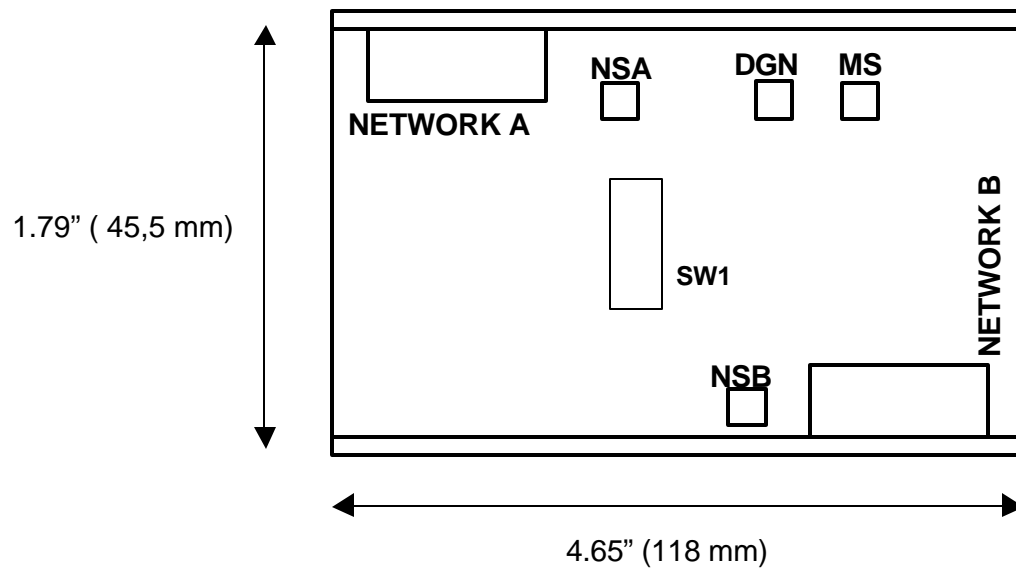
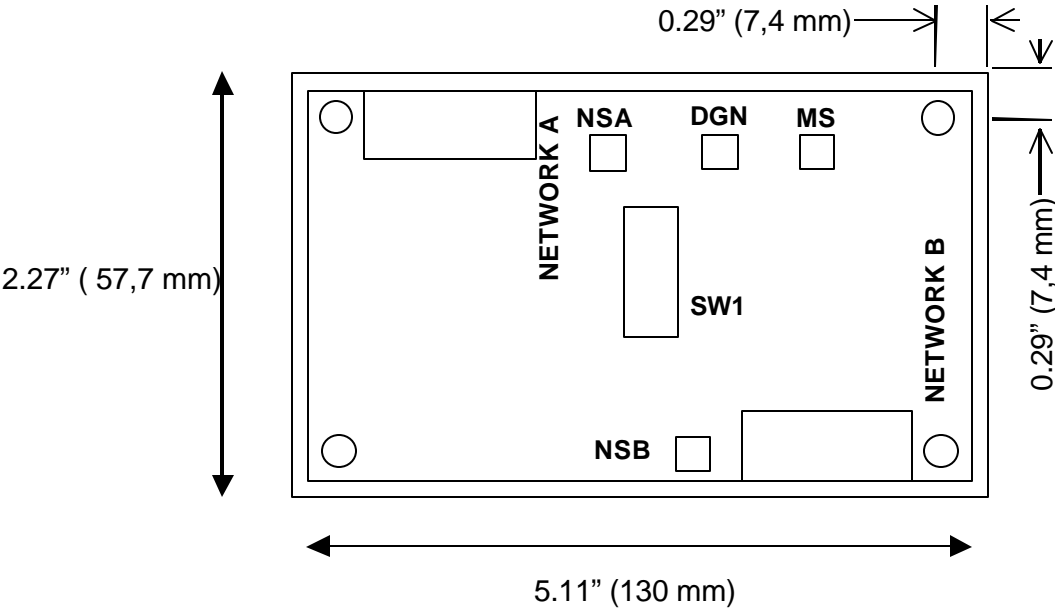

Figure 5-1 WRC-CANX-DIN CAN-Bus Extender
Figure 5-2 WRC-CANX-NEM CAN-Bus Extender
The WRC-CANX-XX Multiplexer has four (4) LED's that provide visual status information to the user about the product and the DeviceNet network. See Figure 5-1, Figure 5-2 Table 5-2 and Table 5-3.